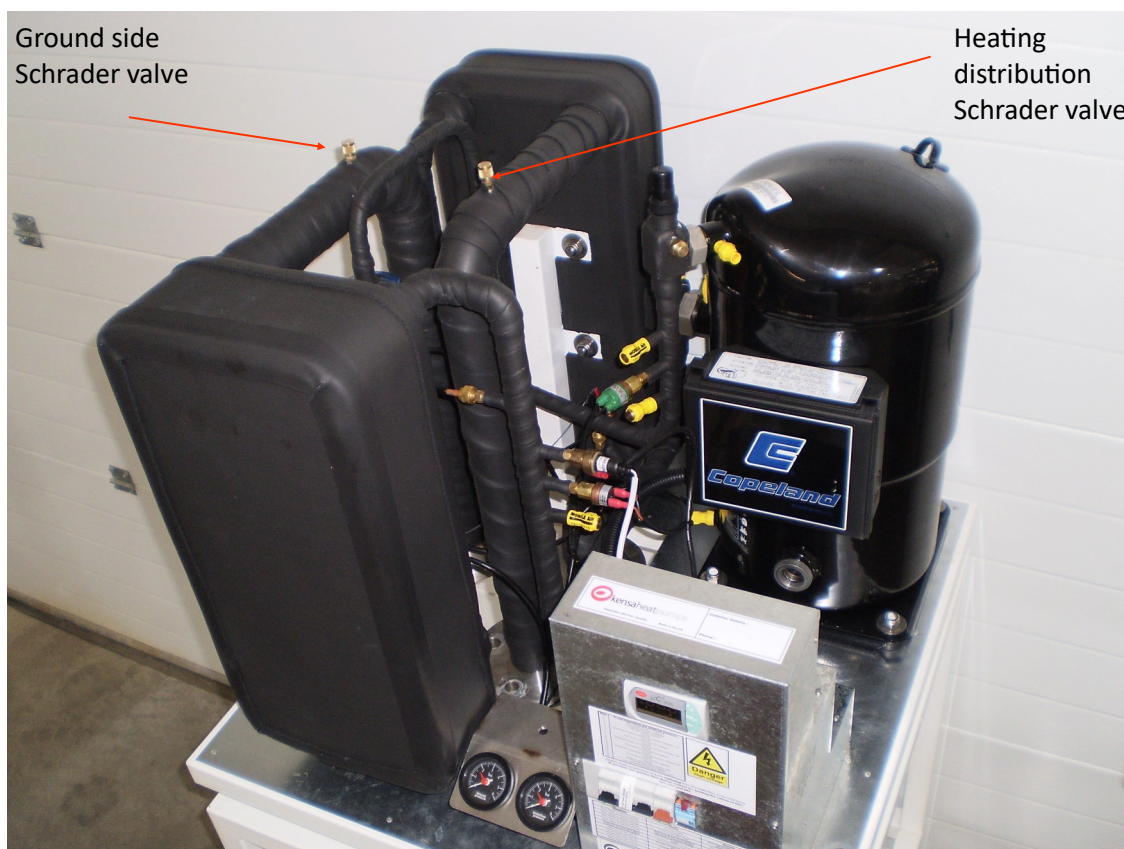

Fig 15 Location of heat pump schrader valves (Bleed Points)
The concentration of antifreeze is required for the commissioning certificate and it is advised that this figure is noted in the settings table. A sample of the fluid can be obtained from the ground side Schrader valve as shown in Fig 15.
- iv. Remove the cap from the heating bleed port and depress the Schrader valve using a small screw driver, as shown in Fig 15